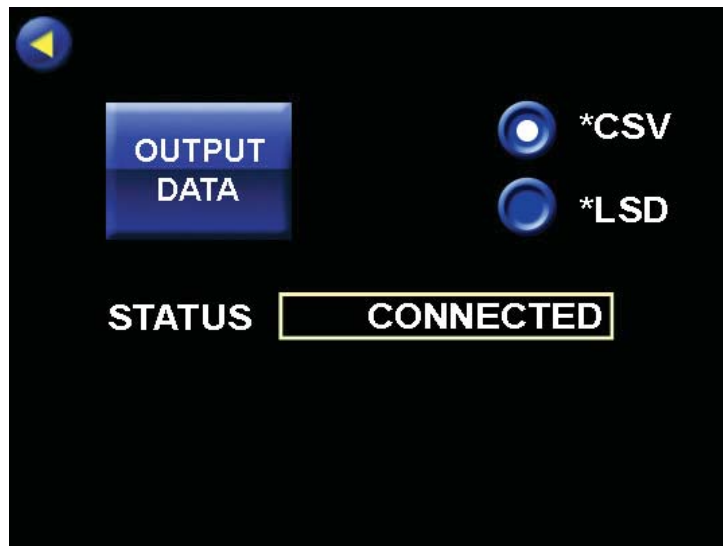

Figure 5-11 Flash Drive - Connected
- When a flash drive is connected to the USB port the software automatically detects the drive as shown in Figure 5-11.